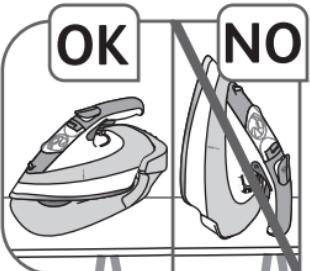

Fig.13
- Do not place the iron on its heel during the resting period, but on its base – fig.13.